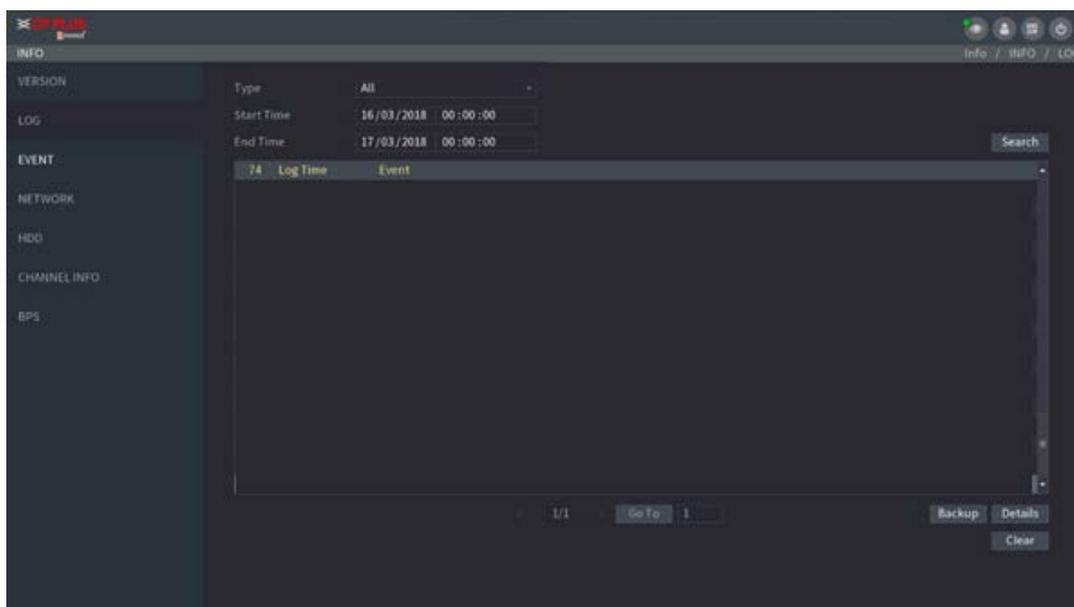

Figure 5-238
Step 1 Select **Main Menu** → **INFO** → **LOG**, the **LOG** interface is displayed. See Figure 5-238.